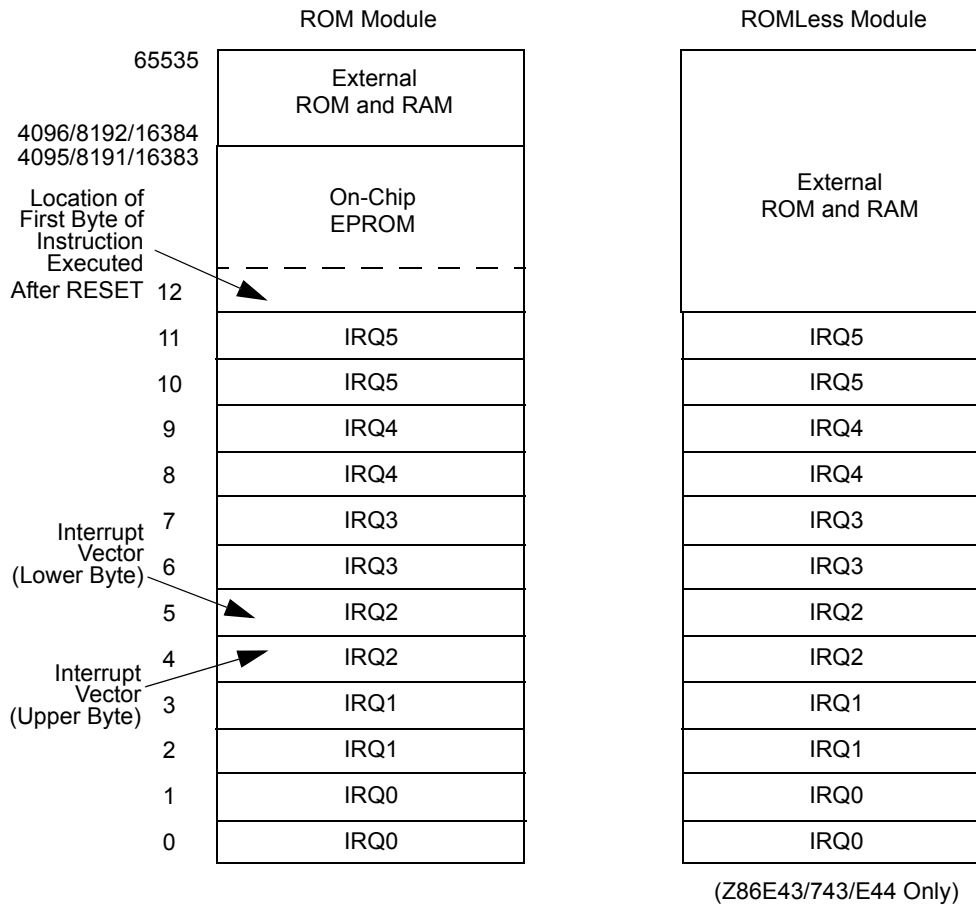

Figure 22. Program Memory Map
**Program Memory.** The MCU can address up to 4/8/16 KB of Internal Program Memory (see Figure 22). The first 12 bytes of program memory are reserved for the interrupt vectors. These locations contain six 16-bit vectors that correspond to the six available interrupts. For EPROM mode, byte 12 (000Ch) to address 4095 (0FFFh)/8191 (1FFFh)/16384 (3FFFh), consists of programmable EPROM. After reset, the program counter points at the address 000Ch, which is the starting address of the user program.